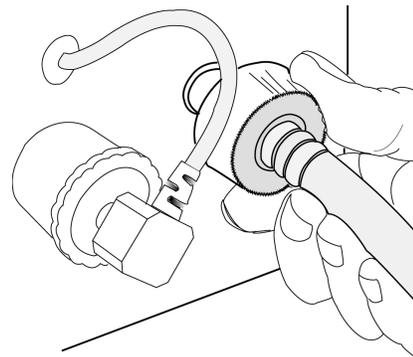

Figure 7.20 O₂ hose connection
5. Attach one arm of the tubing to the manometer and connect the other (with the correct DISS fitting) to the high pressure O₂ inlet on the rear of the instrument shown in figure 7.20.